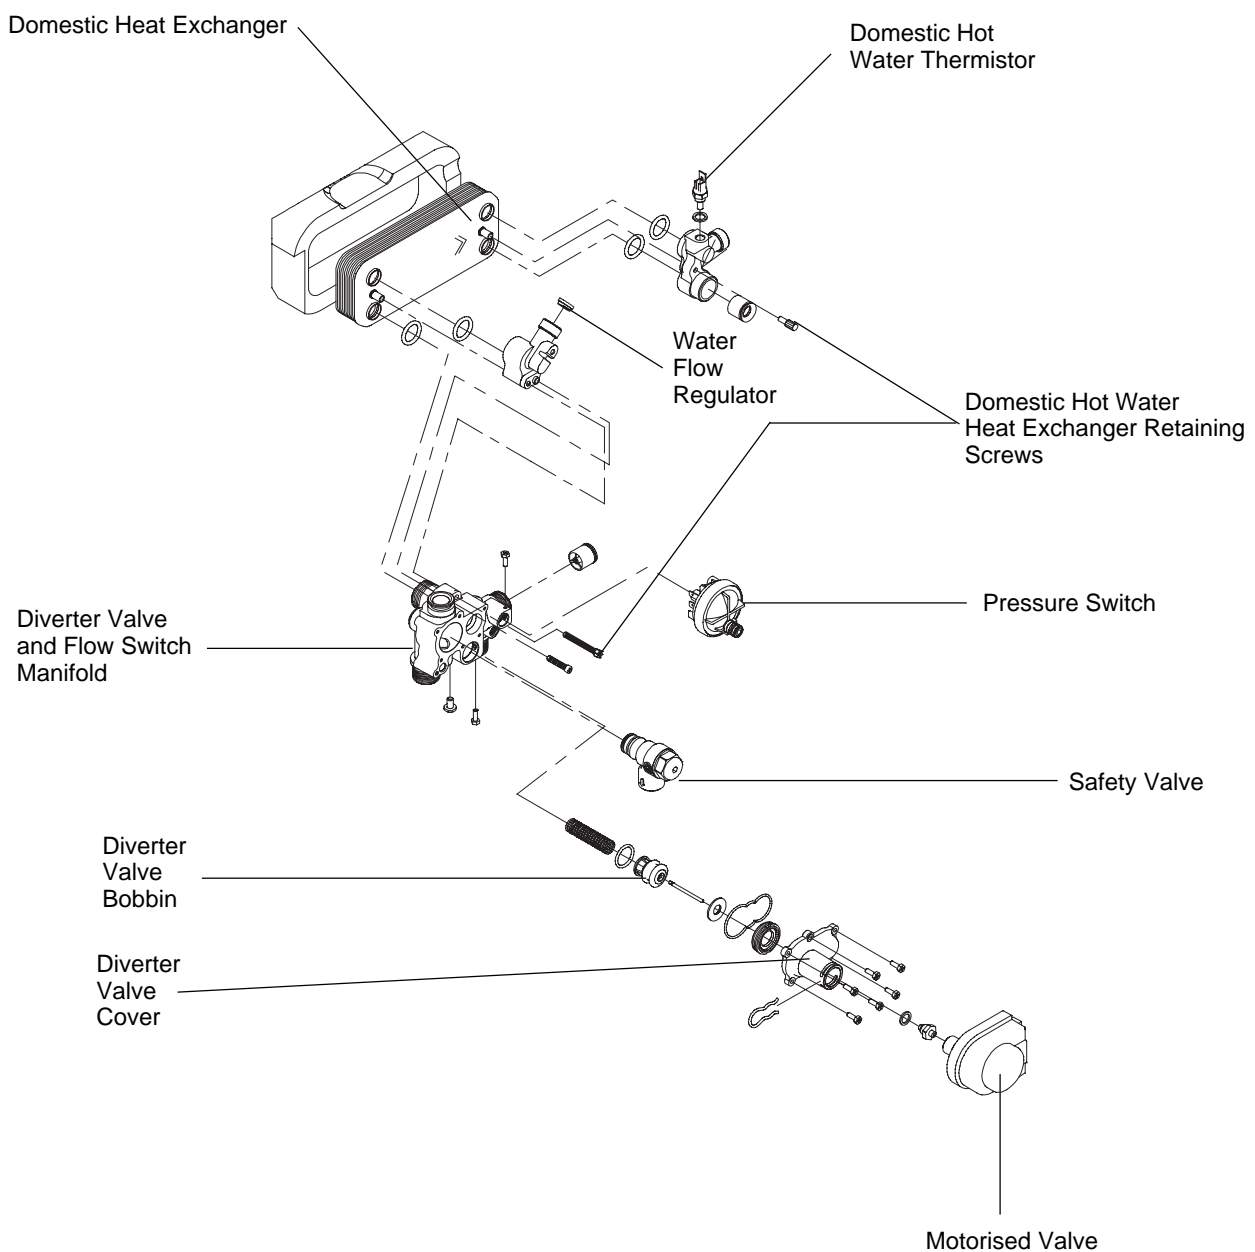

Fig.35
- 8.16.12** Withdraw hydraulic group from appliance. See fig. 35 for further disassembly.
- 8.18.5** See Fig.35 for further disassembly and location of components.